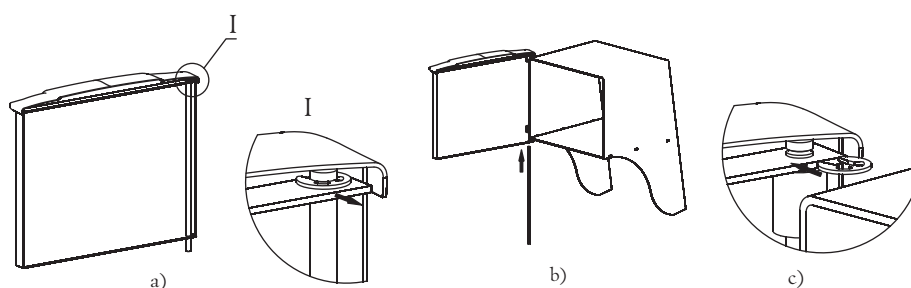

Figure 6. Assembly of the door under installation of the stove.
1. Remove a stop quick-detachable collar, then remove the axis out of the door, see figure 6.a;
3. Set an axis from bottom to top through holes. Place a groove under a collar in the top part of an axis, see figure 6.b;
4. Install a stop quick-detachable collar in a groove on an axis, see figure 6.c.